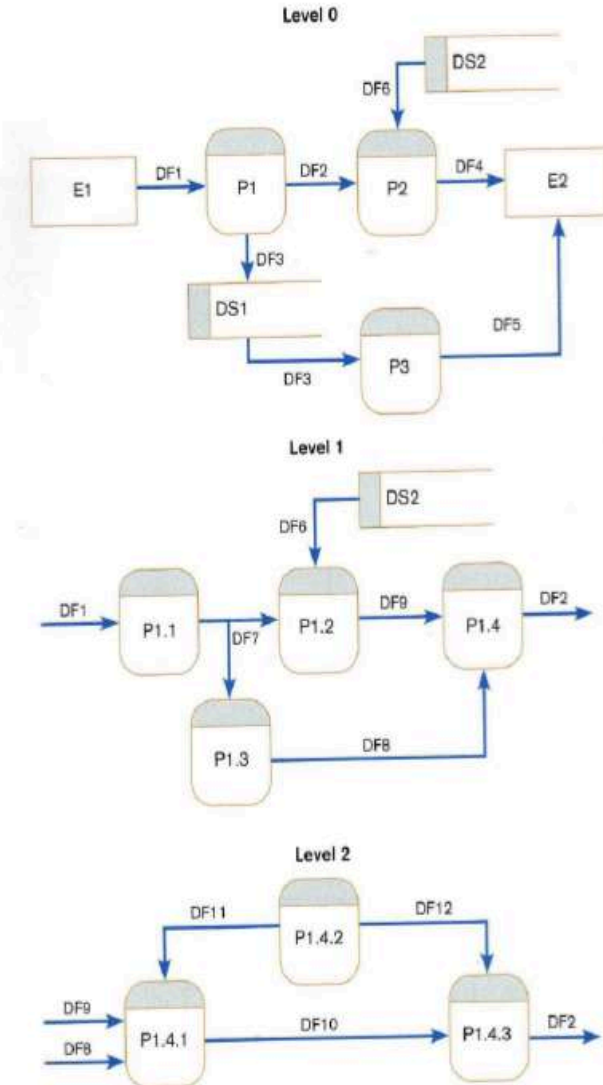

Figure 2: DFD for Question 8b
b) Consider the three DFDs in Figure 2. List and justify THREE (3) errors (rule violations) on these DFDs.